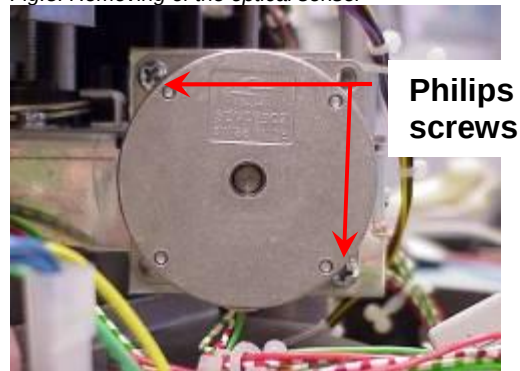

Fig. 6 Removing of the stepper motor screws
6. Remove the 2 motor screws as marked in the fig. 6
8. Loosen the 2mm hex screw as marked in fig. 6 and remove the bush from the stepper motor